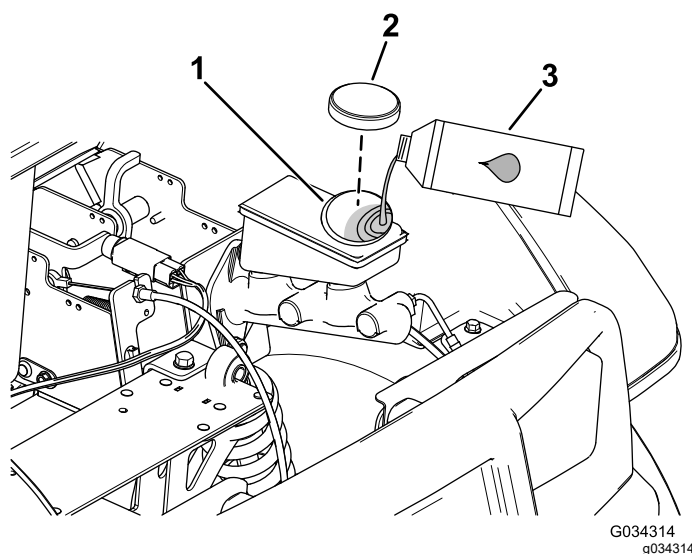

Figure 60
2. Raise the hood to gain access to the master-brake cylinder and reservoir (Figure 60).
- A. Clean the area around the reservoir cap and remove the cap (Figure 60).
- C. Install the reservoir cap (Figure 60).